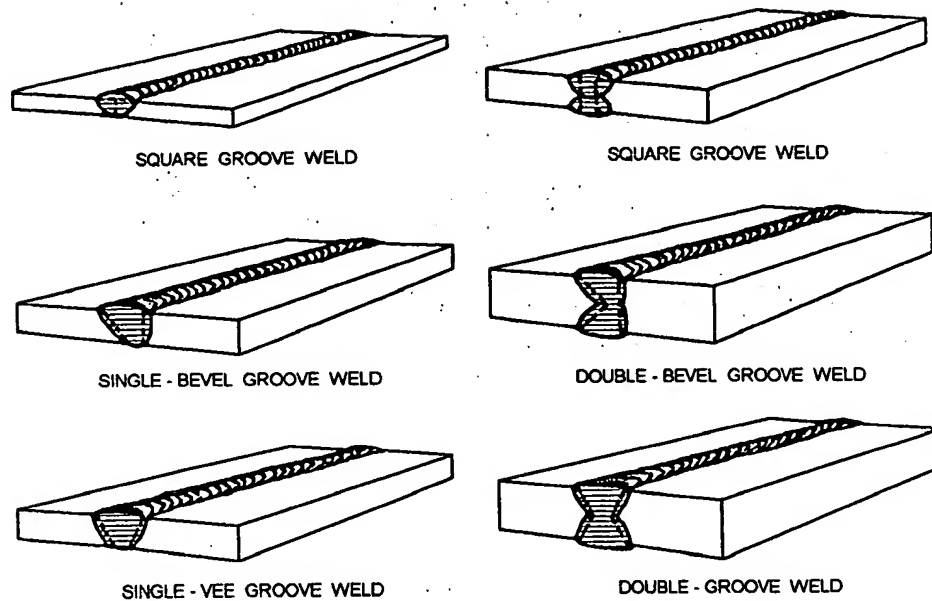
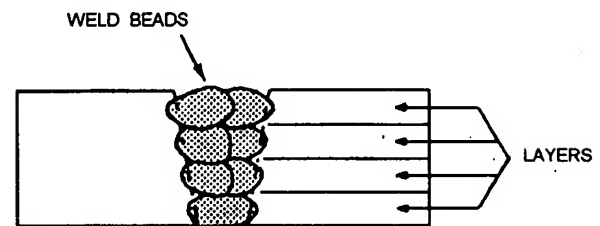

Figure 3-13.—Standard groove welds.
Figure 3-14.—Multiple-pass layers.
**Groove welds** are simply welds made in the groove between two members to be joined. The weld is adaptable to a variety of butt joints, as shown in figure 3-13. Groove welds may be joined with one or more weld beads, depending on the thickness of the metal. If two or more beads are deposited in the groove, the weld is made with multiple-pass **layers**, as shown in figure 3-14. As a rule, a multiple-pass layer is made with stringer beads in manual operations. As a Steelworker, you will use groove welds frequently in your work.